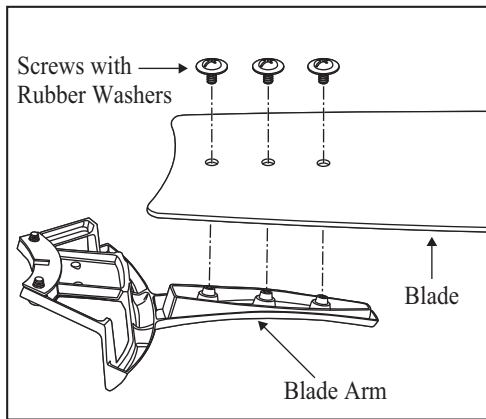

Figure 17
1. Attach blades to blade arm using the screws and rubber washers provided. (Fig. 17) Start a screw into the blade arm, do not tighten. Repeat for the remaining screws and washers.